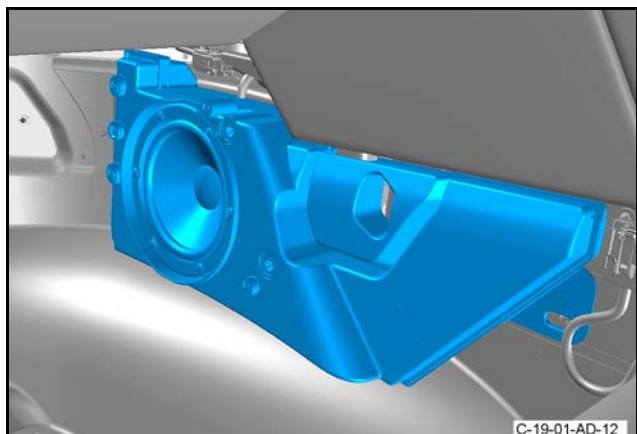

Figure 15
- 33. Put the footwell speaker in position (refer to Figure 15).